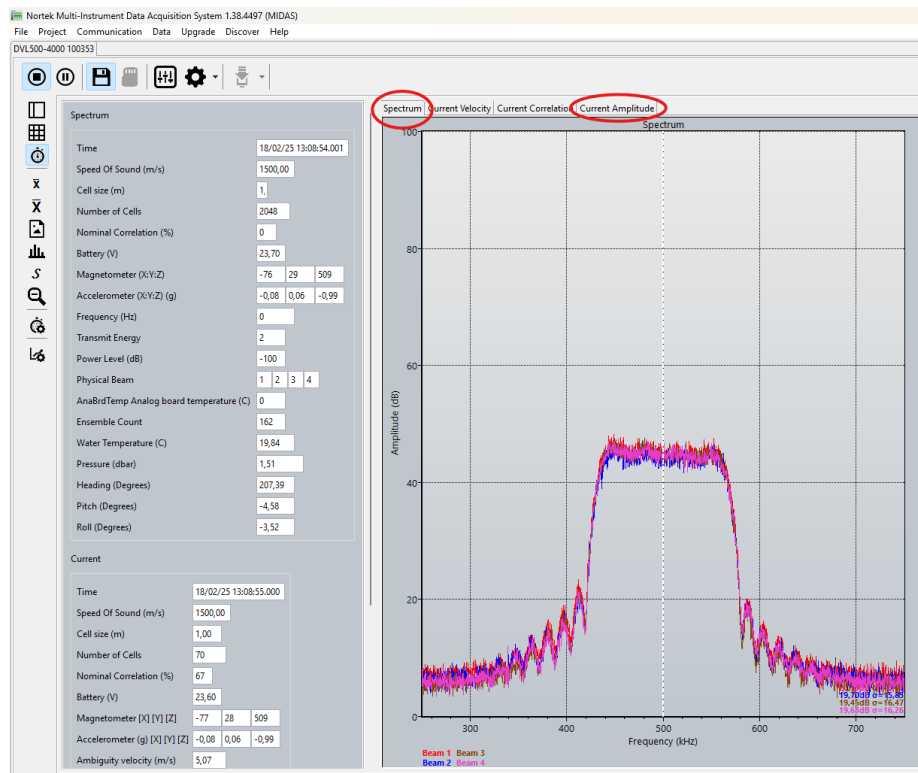
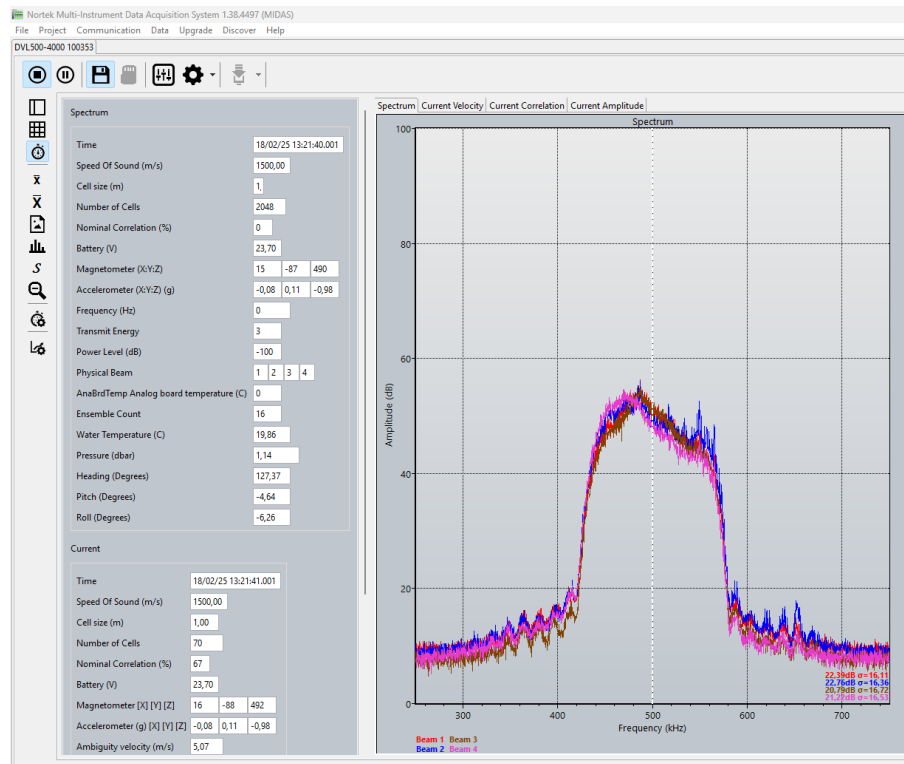
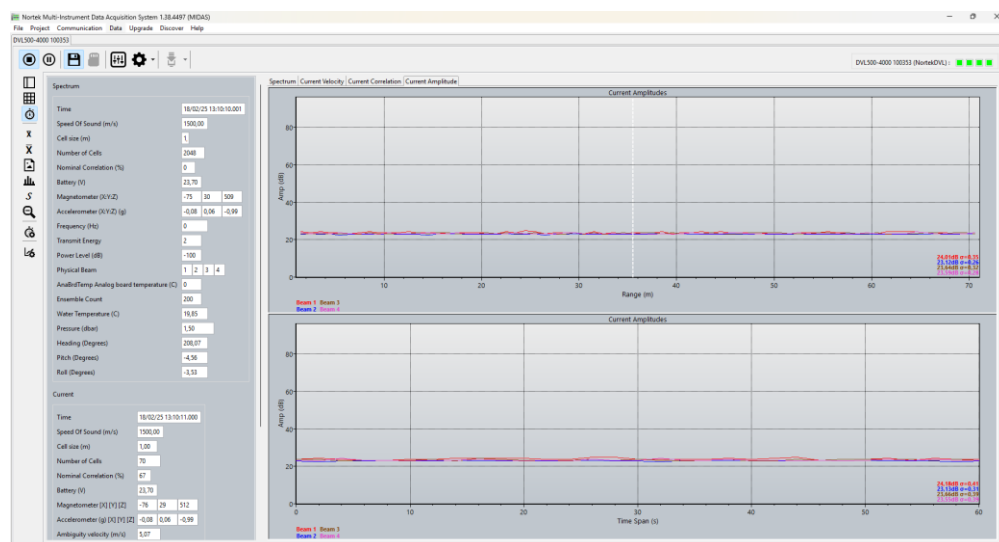
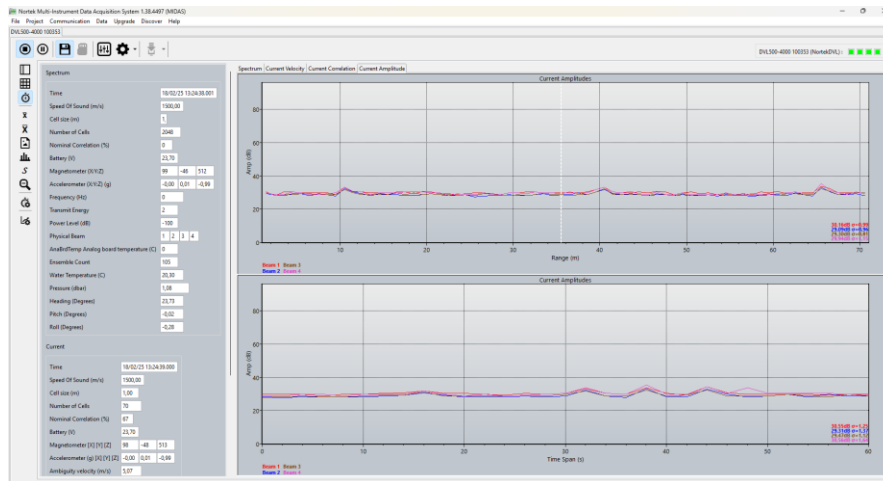

Figure 18: Midas Good Frequency vs Amplitude
Figure 19: Midas Poor Frequency vs Amplitude
Figure 20: Midas Good Range vs Amplitude
Figure 21: Midas Poor Range vs Amplitude
2. If the 'Frequency vs Amplitude' graph looks similar to the graph in figure 18 and figure 20, proceed with the testing. If the graph looks more similar to the graph in figure 19 and figure 21, return to the “*Background noise testing*” section to identify and remove sources.
Figure 18 is a good example of the 'Spectrum' tab in a low noise environment. Looking at the Amplitude vs Frequency graph, one can see a nice flat bandwidth plateau with a steep rise on both sides. The flatness of the plateau shows there are minimal noise sources within the DVL's bandwidth. The steepness of the sides shows there is low baseline noise in all frequencies near the DVL's operating bands. The 'Amplitude' on the y-axis should be ignored as it is not important, only the shape of the bandwidth should be analyzed.
Figure 19 shows a spectrum tab with the DVL in air. This is a noisier reading with small peaks throughout the frequency band. The bandwidth plateau is also worse, with two prominent peaks with a substantial slope in between.
Figure 20 shows the 'Current Amplitude' tab from the same data set as figure 18. The Range vs Amplitude graph quantifies the noise floor, which in this case is shown to be very good at around 25dB.
Figure 21 shows the 'Current Amplitude' tab from the same data set as figure 19. In this graph we can see an elevated noise floor hovering around 30dB. This shows the impact from the deteriorated noise bandwidth plateau as an overall higher noise plateau of roughly 5dB.